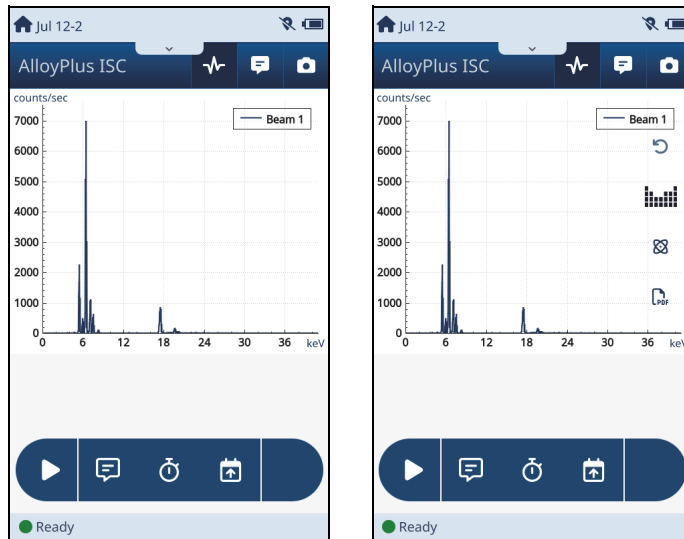

Figure 3-3 Spectrum — Unexpanded (left) and expanded (right)
2. Tap and hold the spectrum image until it expands to fill the available screen area (see Figure 3-3 on page 109).